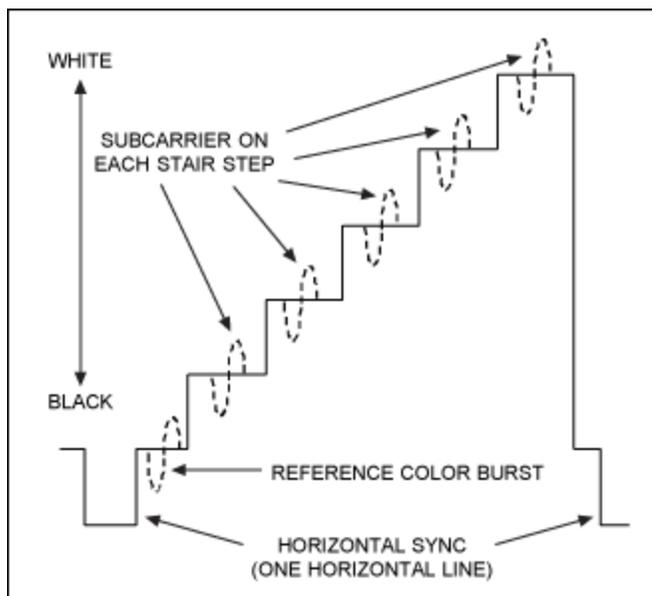
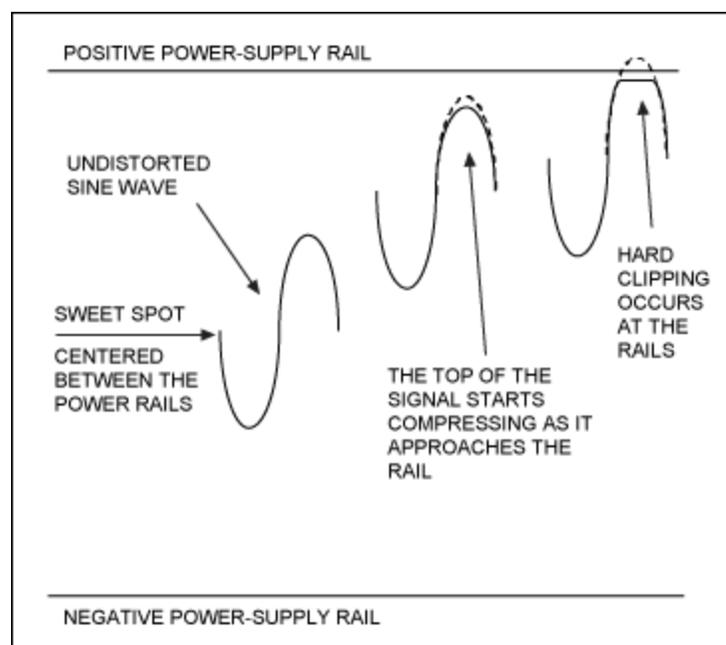

Figure 1. Video DG and DP.
Figure 2 Amplifier DG and DP near the power rails.
Differential phase (DP) only applies to encoded systems with a reference burst. So with most HD, there is no DP. However, differential gain (DG) was first a black-and-white TV test. It is also a good way to explore the linearity of analog amplifiers for applications other than television. **Figure 1** is a low-frequency staircase with a high frequency superimposed. Placing a small high-frequency sine wave (about 2/3 to 3/4 of the system bandwidth) on top of a larger lower-frequency sine wave will have the same effect. If the pair of signals is low level and centered between the power rails (the sweet spot), the output will have the best linearity (**Figure 2**). As the low-frequency signal increases in amplitude, the high-frequency signal will distort first. The second and even harmonics will increase if the distortion is asymmetrical top-to-bottom. If the signal distorts evenly top and bottom, the third and odd harmonics will increase.
All amplifiers have some amount of nonlinear amplitude response. Negative feedback is utilized to reduce this nonlinearity. DG and DP are really specialized linearity measurements that account for frequency response. NTSC (US) and PAL (UK, Europe, and China) TV systems send the color information on a subcarrier (3.58MHz for NTSC, 4.43MHz for PAL). DG is defined as the change in amplitude of the high-frequency subcarrier when there is change in low-frequency video level or brightness. Figure 1 shows an NTSC video waveform. The 3.58MHz subcarrier is superimposed on a lower frequency luminance signal with five brightness steps. The subcarrier is drawn as single large sine waves for clarity. In fact, there are more than 200 subcarrier cycles across one horizontal line.
Amplifiers, ADCs, and DACs have a "sweet spot" where they are most linear and meet the highest specifications or standards. This sweet spot is usually located midway between the two power rails (Figure 2), although the IC designer could place it at another point if necessary. Here the amplifier is operating with the best control over feedback and is naturally most linear. That means that, as a signal approaches the power-supply rails, the linearity is reduced. Superimposing a high-frequency sine wave on a low-frequency signal allows all of the amplifier's operating range to be explored. For example, if the application needs a 10MHz signal, an amplifier like the MAX4389 can be used by applying a 7MHz sine wave and then changing the DC bias. The sine-wave signal biased to midrange DC will have the best response. As the DC is changed to move the sine wave toward either power-supply rail, the sine-wave amplitude will change. Usually the high-frequency response is reduced as the power rail is approached and the transistor operating current is reduced. At the extreme condition the amplifier simply runs out of current, stops operating, and clipping occurs. ADCs and DACs can be checked in a similar manner.